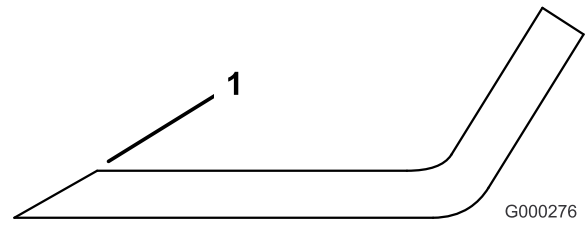

Figure 100
1. Use a file to sharpen the cutting edge at both ends of the blade (Figure 100). Maintain the original angle. The